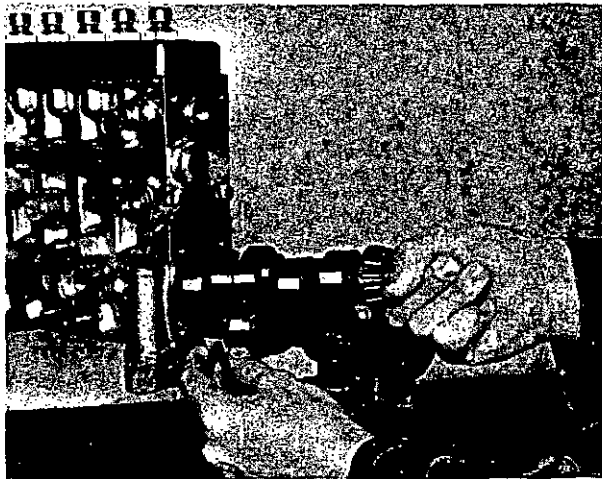

Fig. 10 Removing camshaft
8. Withdraw the camshaft (fig. 10).